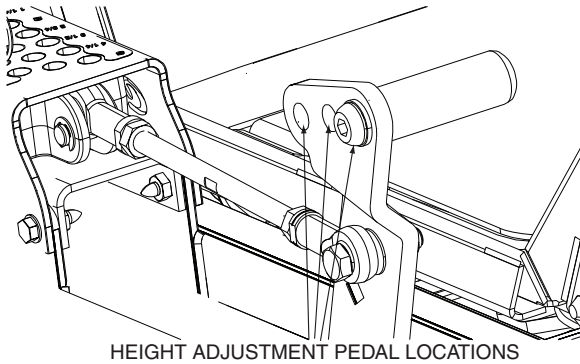

Figure 4-8. Height Adjust Pedal Locations
3. The height adjust pedal can be located in three (3) different positions for operator comfort and control. See Figure 4-8.